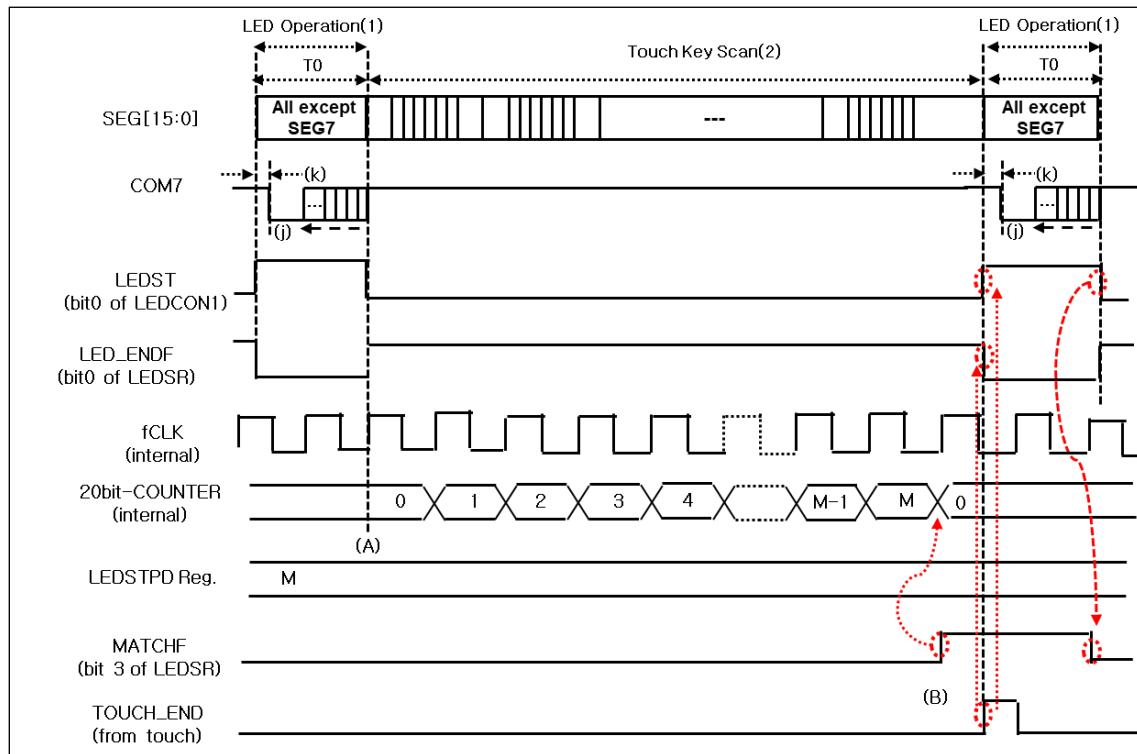

Figure 113. Smart Share Mode
Figure 113 show smart share mode in case of CSER = 1000\_0000B. An interrupt occurs at point (A) here the LED operation terminated when LED\_INTE is set. At the same time, 20-bit counter starts to increase by the internal enable bit although 20-bit STPD register is matched with the counter and then MATCHF (LEDSR[3]) is set “1”.